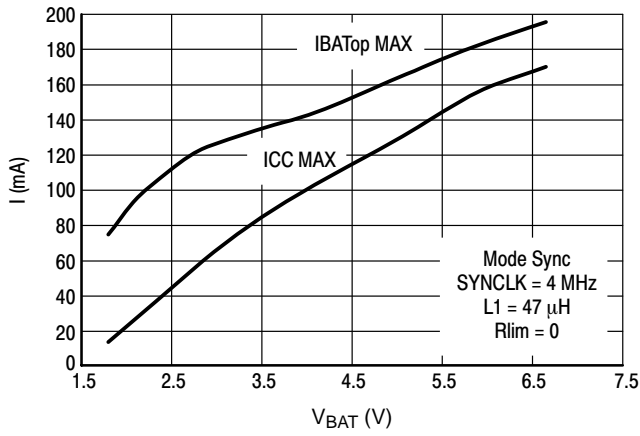

Figure 2. Maximum Battery and Card Supply Current vs.  $V_{BAT}$  ( $V_{CC} = 5.0 V$ )
- See Figures 2 and 3.
4. See Figures 2 and 3.